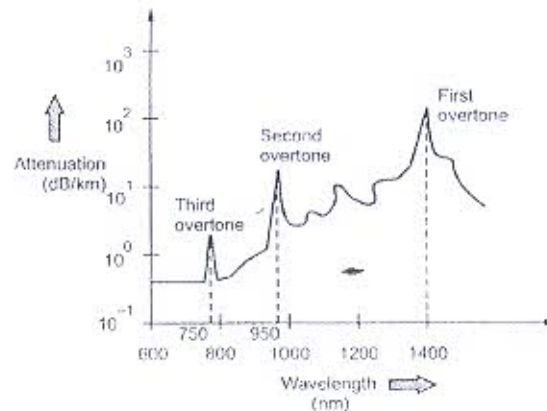

Fig. 2.2.2 Absorption spectra for OH group
- Fig. 2.2.2 shows absorption spectrum for OH group in silica. Between these absorption peaks there are regions of low attenuation.